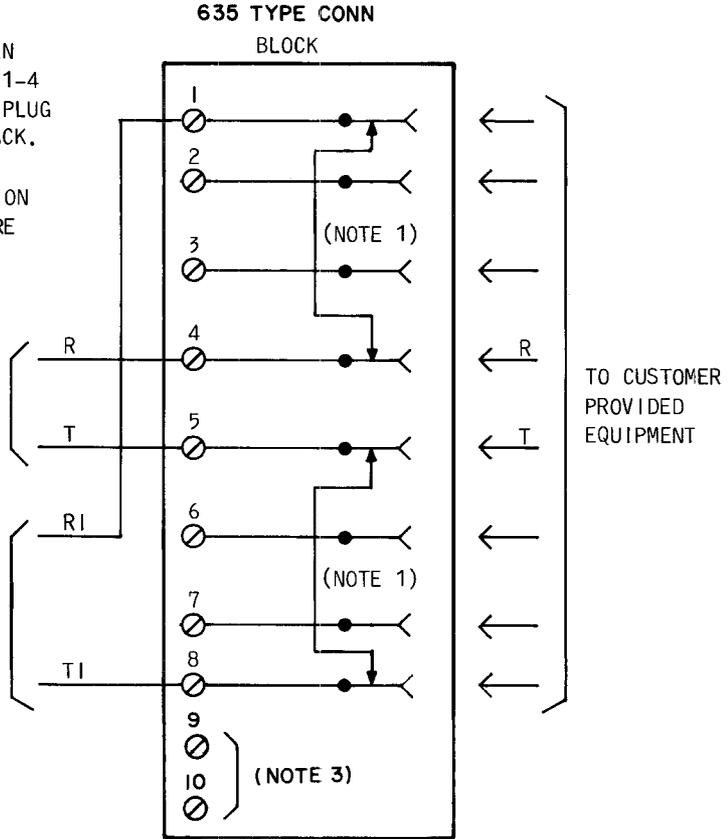

Fig. 5—Connectors for USOC RJ32X
**2.03 USOC RJ32X:** This arrangement (Fig. 5) also provides a series tip and ring connection through the 635-type connecting block but is used where the CPE is connected in series with a single station, such as an automatic dialer.